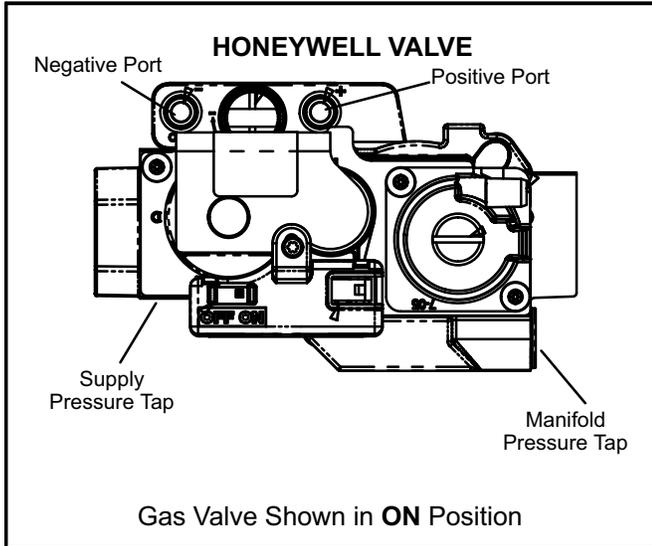

FIGURE 1
- 2 - Remove the threaded plug from the outlet side of the gas valve and install a field-provided barbed fitting. Connect measuring device positive “+” to barbed fitting to measure manifold pressure. See figure 1 for manifold location.